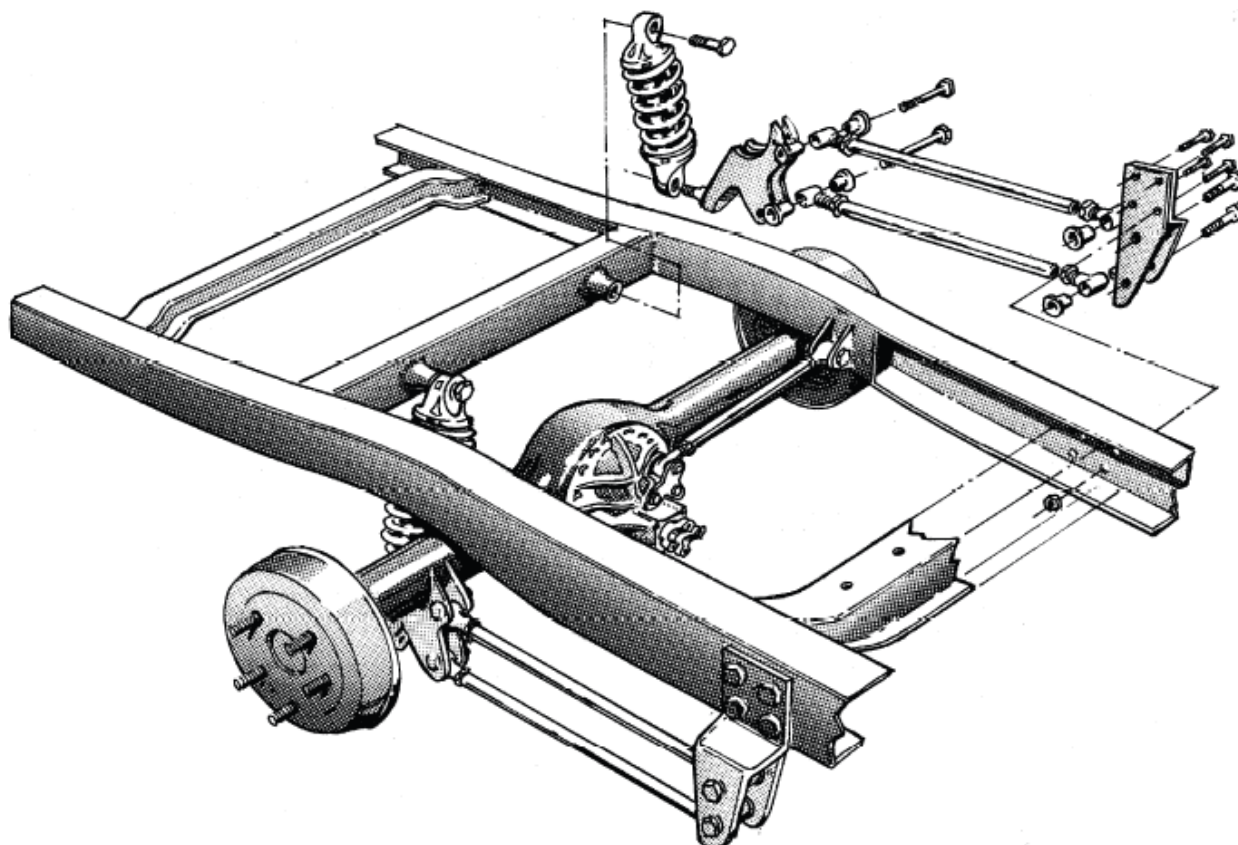

Figure 1- Installing Brackets to Frame
3. Assemble the front brackets onto the frame with the 4-bar holes to the rear, using the 7/16-14 Grade 8 bolts and lock nuts supplied. Do not tighten until all the bolts are installed in the brackets. See **Figure 1**.